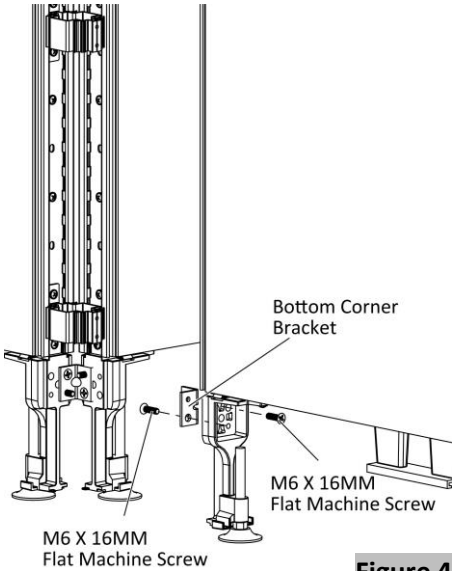

Figure 4
- 8. Securely fasten the corner bracket of the third panel with two M6 X 16MM Flat Machine Screws, (Figure 4).